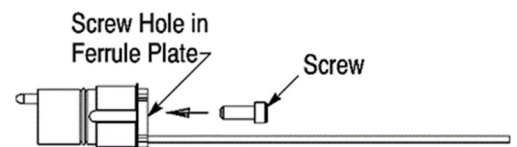

Figure 9
2. Align the end of the ferrule assembly with the appropriate channel cavity of the EB insert and insert the ferrule assembly into the channel cavity until the o-ring is against the back of the insert. See Figure 9, Detail A. To avoid damage to the fiber, DO NOT push on the fiber to install the ferrule assembly.
3. Slide the spring over the fiber until it is against the O-ring of the ferrule assembly. See Figure 9, Detail B.
4. Using the ferrule insertion tool, **push on the spring** until the ferrule assembly bottoms in the channel cavity (the spring will protrude slightly from the cavity). See Figure 9, Detail C.
5. Align the index pin hole of the ferrule plate with the index pin at the back of the EB insert, and slip the fiber into the closest slotted hole in the ferrule plate. See Figure 9, Detail D.
6. Hold the ferrule plate against the EB insert, making sure that the index pin enters the index hole. Thread the screw through the screw hole in the ferrule plate and into the hole in the EB insert. See Figure 9, Detail E. Using the 2-mm hex wrench, tighten the screw to a torque between 0.8 and 1 N·m. Check to make sure that the ferrule plate is flush with the EB insert.
- Revised and added to the Detail illustrations in Figure 9 to add the use of the ferrule insertion tool for ferrule installation in Section 5.6. Steps 1 through 4.